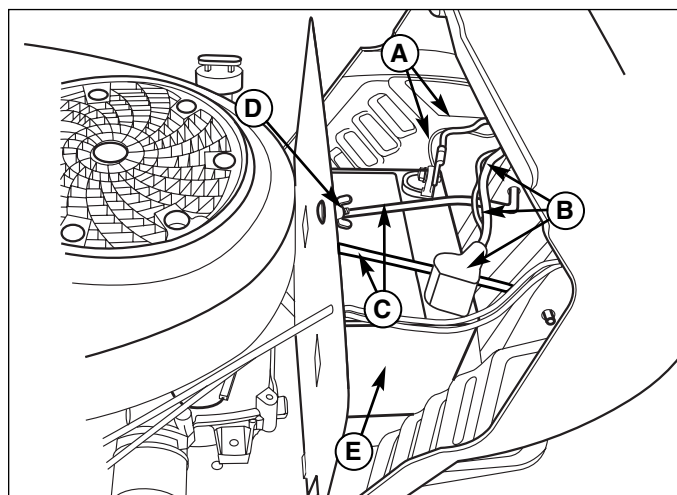

Figure 2. Battery Maintenance
1. Open the tractor hood to access the battery (E, Figure 2).
2. Loosen the wingnut & washer (D).
3. Pivot the hold-down rod (C) up and away from battery and secure.
4. Remove the battery (E).